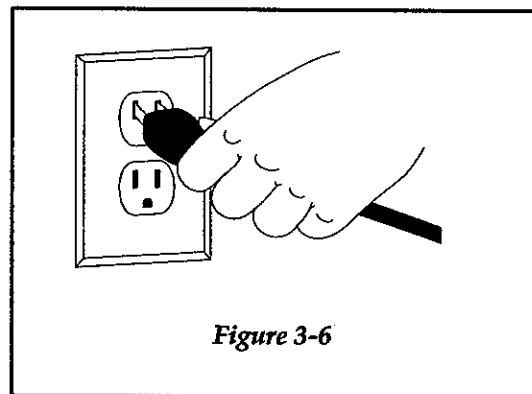

Figure 3-6
- Step 5** Make sure the ON/OFF switch is OFF (0), then plug the electrical cord into a three-prong outlet. Figure 3-6.